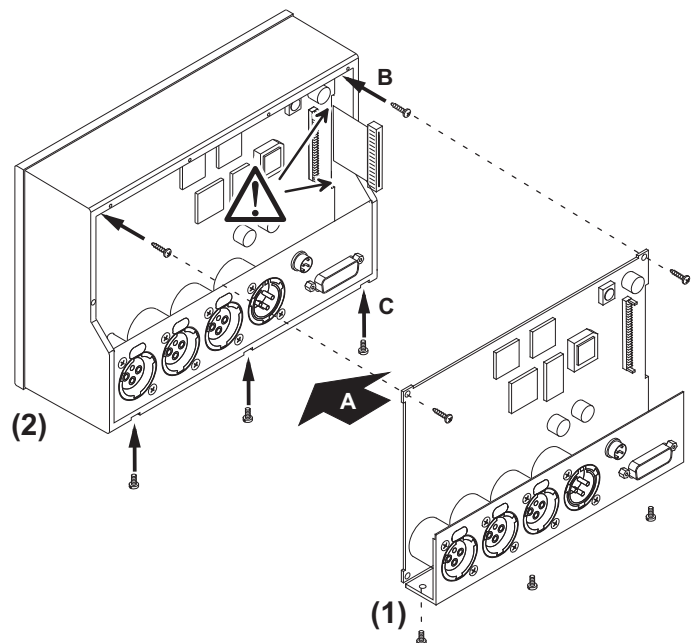

Fig. 8-10: Remounting of the main pcb and the connector panel
12. Place the main pcb back to its holder bases (A). Take care about the wiring of the connecting flat cable. It has to be directed through the right sided gap of the pcb without clamping and may only stick out for about 1 - 2 cm maximum. Avoid damage because of canting. Now first fasten the main pcb with its two screws (B), then fasten the connector panel with its three screws from the bottom side (C). (Fig. 8-10)